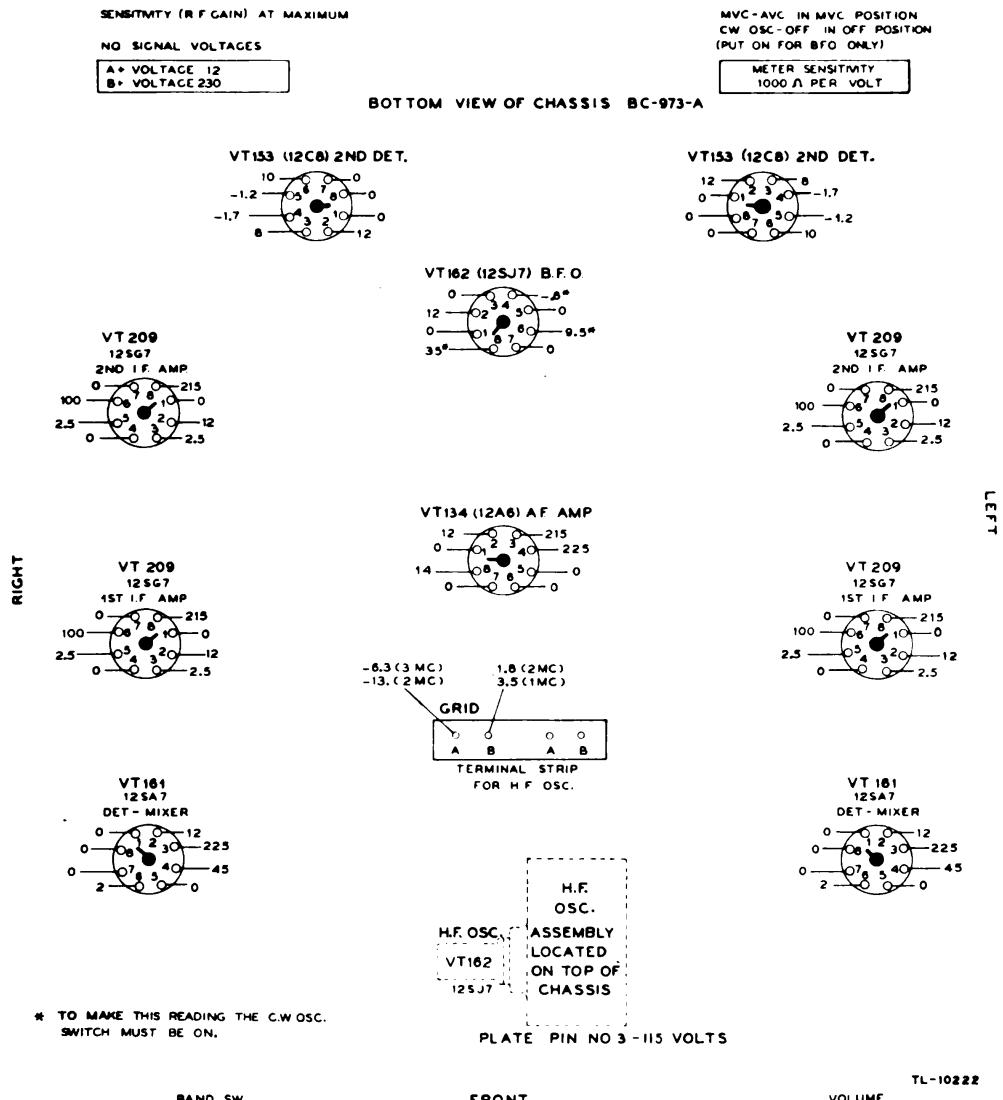

Figure 22. Radio Receiver BC-973-A, tube socket voltages.
(a) Now check the tube voltage and resistances and compare with figures 22, 23, 24, and 25.
e. If the right channel is defective (subpar. b. (2)) determine which stage is defective by following the procedure outlined in subparagraph (d) above.
f. If the trouble is in the oscillator or loop circuits (subpar. b. (4)) a very simple check will show whether or not the oscillator is working.
(1) Measure the voltage on the oscillator grid or on one of the wires connected to it with a voltmeter of at least 1,000 ohms per volt. This voltage should be negative as indicated on figures 22 and 24.
(2) If there is no grid voltage, then check the voltage of the oscillator coils, bandswitch, oscillator tube and oscillator section of the tuning capacitor.
(3) If these are satisfactory, the trouble must be in the loop circuit.
a. *Relay contacts.* (1) Relay contacts become noisy after they have been subjected to considerable use. This causes a very loud click in the headphones whenever the PRESS TO BALANCE or